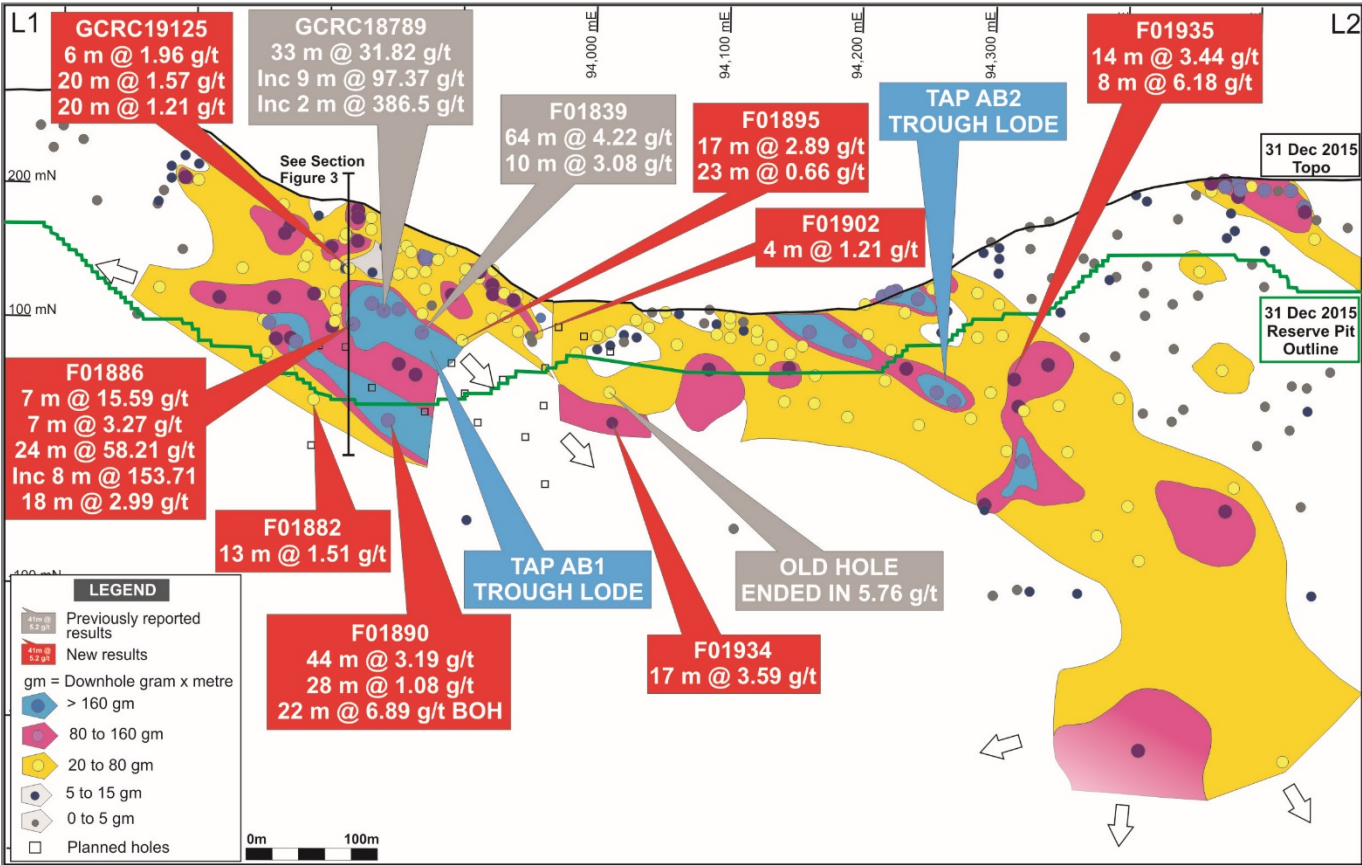

Figure 2. Tap AB1 & 2 Trough Lode long-section looking west.
On 30 March 2016, the Company announced results from drill holes intersecting the continuation of the high-grade Trough Lode beneath the pit surface at Tap AB1. Follow-up drilling commenced late April with a 6,000 metre reverse circulation (RC) program. Of the 31-hole program, 9 holes have been completed to date with results received. The current drilling program is corroborating results previously reported from hole GCRC1879 (33 metres grading 31.82 g/t gold, March 30th, 2016) and extends the zone of high grade further down plunge (Figures 2 & 3).
Hole F01886 (Figure 2) contains the best results encountered so far in this phase of drilling. Multiple zones of strong mineralisation confirm the high grade nature of the shoot and increase its lateral extent. Additional new results (e.g., F01890) are illustrated in Figure 2 which underscores the open nature of the Trough Lode beneath the AB1 pit. The first hole drilled in the program (F01934) was a large step out hole collared from Tap AB2 and passed through the interpreted position of the Mataforme Fault. A positive result of **17 m @ 3.59 g/t gold** (from 151 m) suggests the Trough Lode may extend 160 m down-plunge from the last hole drilled in the pit to the location of this new intercept (Figure 2). Drilling is ongoing with the aim of confirming this concept along with advancing our geologic understanding which is limited by the sparse amount of drilling at this location.